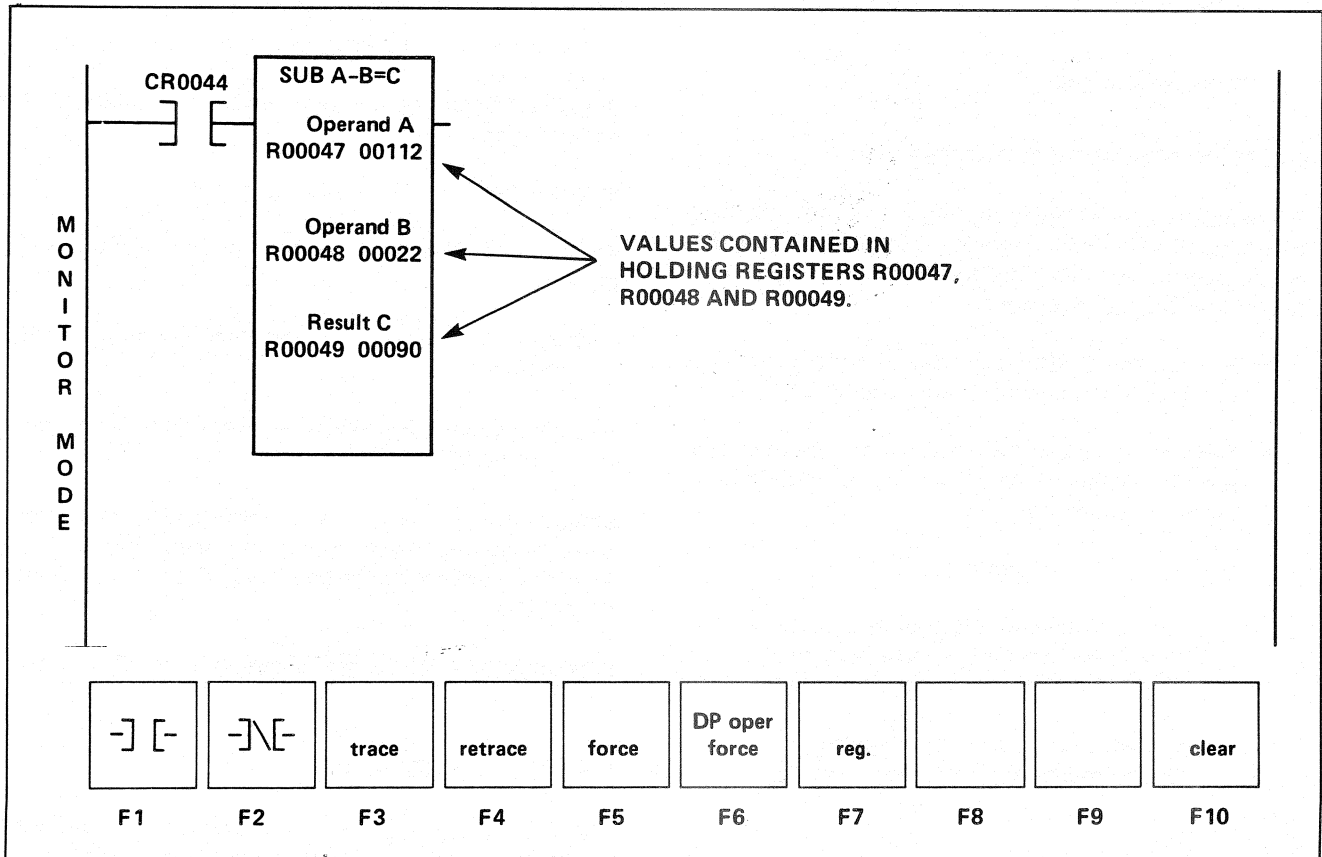

Figure 9-1. Monitor Mode's Primary Screen
- Register or IG/OG group reference numbers contained in standard or advanced function blocks. Along with these, the respective values contained in those registers or groups may also be seen. (See Figure 9-1.) As the values change, the display is updated.
Immediately after entering the Monitor mode, the function keys of the primary screen, as shown in Figure 9-1, are displayed. At this time the various networks contained in the ladder diagram can be accessed by:
The function keys associated with the Monitor mode's primary screen are displayed when the mode is first entered. (See Figure 9-1.) Observe the Figure and relate it to the function key description contained in Table 9-1. The operations associated with each of the function keys are described in the following Paragraphs.